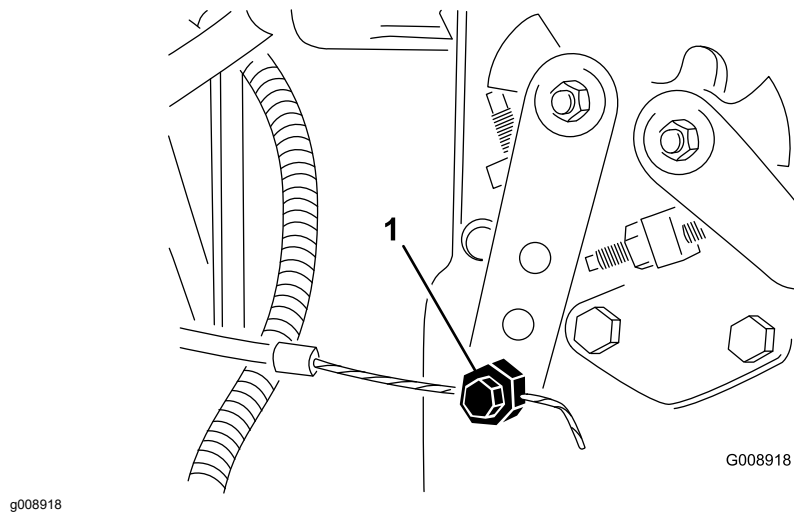

Figure 17
9. Disconnect the throttle cable from the support and swivel on the speed control lever; refer to Figure 17.
12. Connect throttle cable to the support and swivel on the speed control lever; refer to Figure 17.